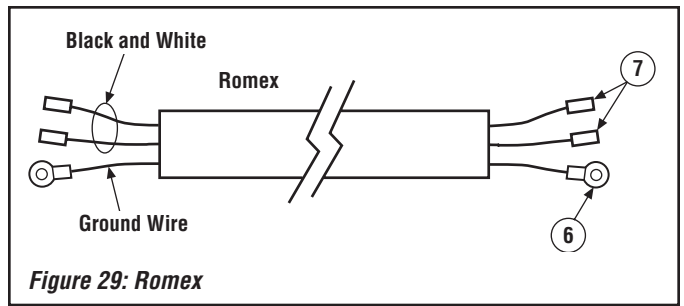

Figure 29: Romex
- Refer to *Figure 29 on Page 21* and install the electrical hardware on the ends of the Romex wiring. Male terminals on the Black and White wires, and ring terminals on the ground wire.